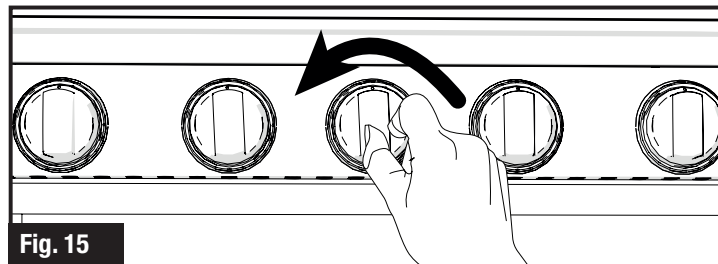

Fig. 15
1. Turn the appropriate burner control knob counterclockwise to the 🔥 position. (Fig. 15)